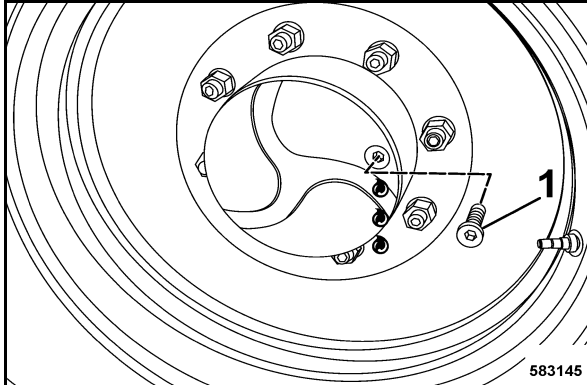

Fig. 167
- Move the drive wheel, until the plug (Fig. 167) is in horizontal position on the housing.